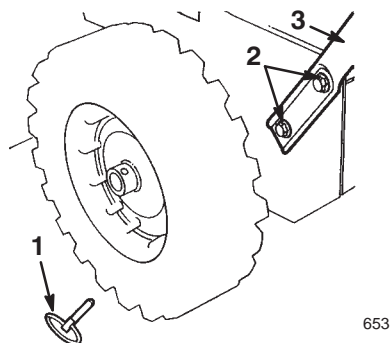

Figure 2
2. Remove the axle pins from both wheels (Fig. 2) and slide the wheels outward on the axle approximately 1 inch (2.5 centimeters).
- Position the left side of the handle assembly against the left side of the snowthrower, align the handle mount holes with the holes in the side plate, and secure the left side of the handle assembly with 2 bolts and curved washers until they are finger tight (Fig. 2).